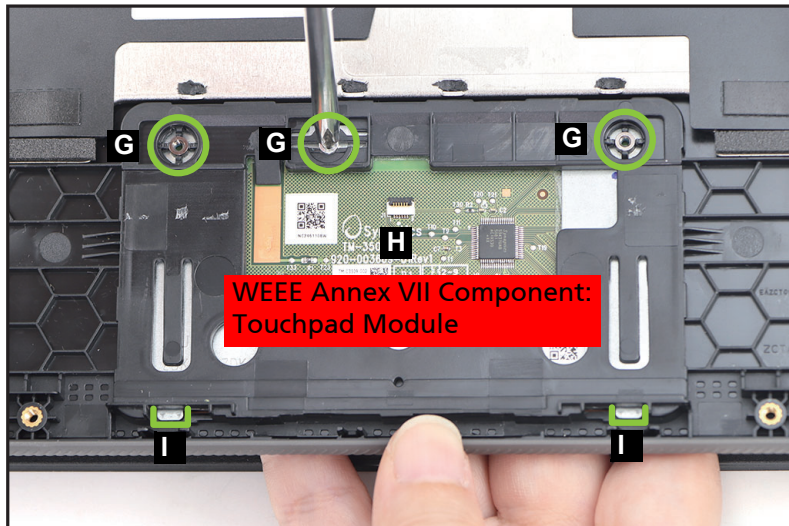

Figure 1-17. Touchpad Module Removal
7. Using the screwdriver, push the guide pins (G) firmly to release them from the top assembly (Figure 1-17).
8. Slide the touchpad module (H) slightly to disengage it from the bottom latches (I), and then remove the touchpad module from the top assembly (Figure 1-17).